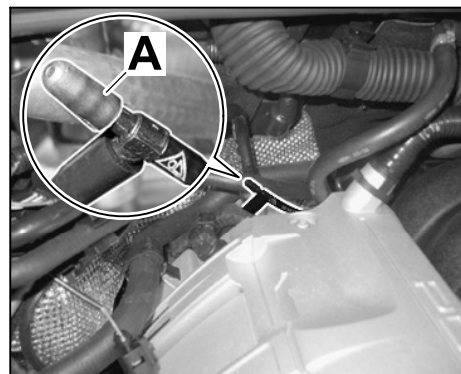

Figure 11
- 3.5.1 Pull dummy plug $\Rightarrow$ *Figure 11 -A-* off the Y-piece of the vacuum line.